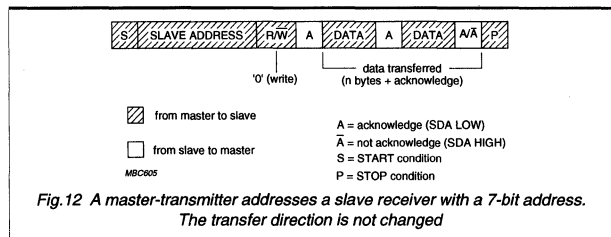

Fig.12 A master-transmitter addresses a slave receiver with a 7-bit address. The transfer direction is not changed
- **Master-transmitter transmits to slave-receiver. The transfer direction is not changed (Fig.12)**